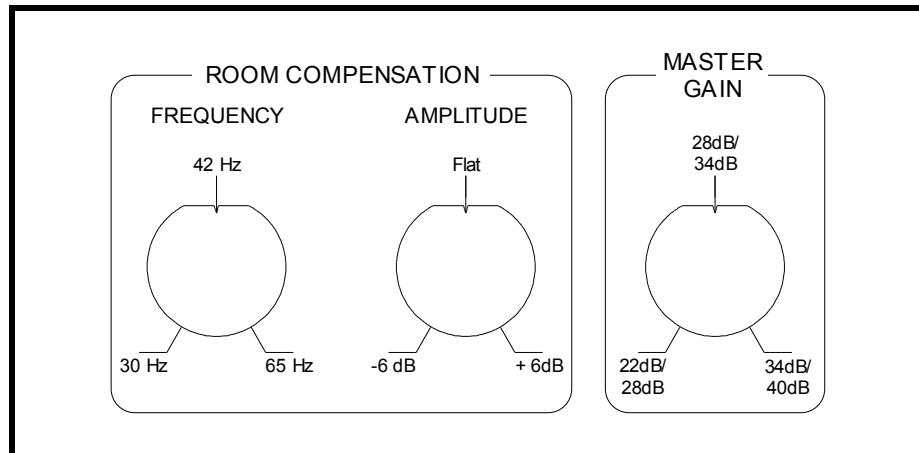

Figure 6.1– Room Compensation and Master Gain controls for the Subwoofer Amplifier.
1. Set the Master Gain on the subwoofer amplifier (see Figure 6.1) to match the output level of your main amplifier. This adjustment is both equipment and room dependent and should be tuned by ear while performing careful listening tests. Consult your dealer should you need assistance.